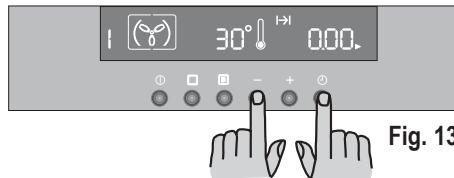

Fig. 13
- press button ① until the symbol ► will flash.
- press button "—" to decrease the time until "0.00" is displayed (Fig. 13).